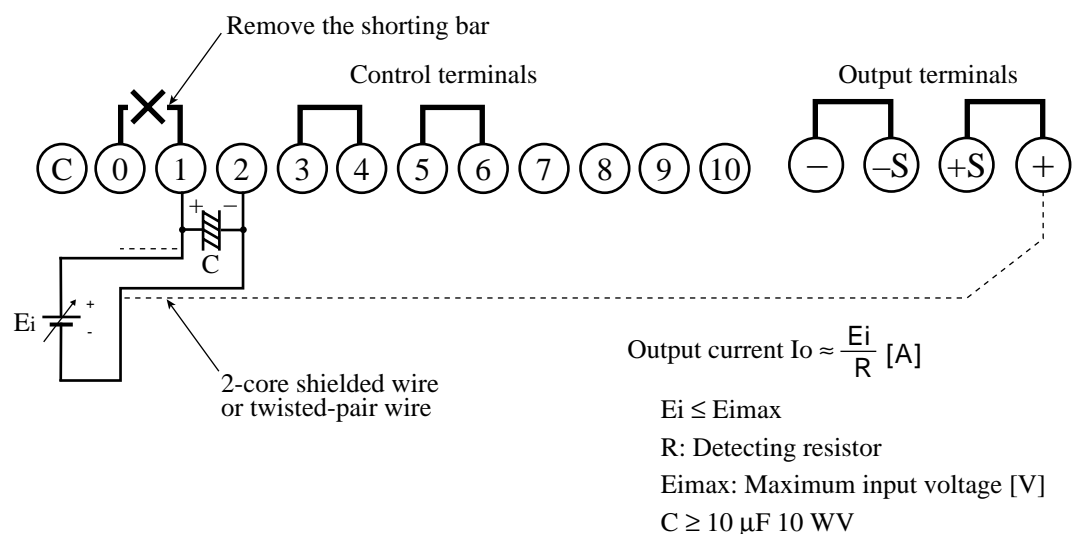

Fig. 4-13 Connections for output current control with external voltage
6. Remove the shorting bar from terminals 0 and 1 of the control terminal board, as shown in Fig. 4-13.
7. Connect an external voltage source ( $E_i$ ) and capacitor ( $C$ ) between terminals 1 and 2 of the control terminal board, as shown in Fig. 4-13.